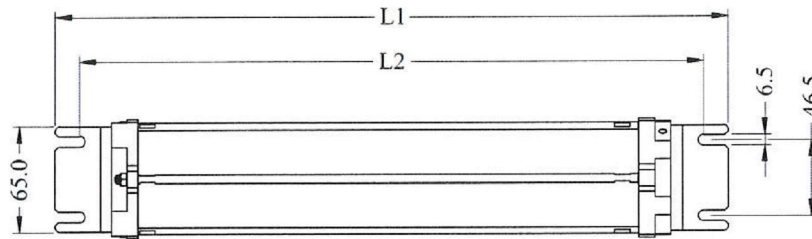

Figure 3
- ☞ Secure the wall/ceiling mounting bracket to the structure by using four fasteners (not provided) (Figure 3).